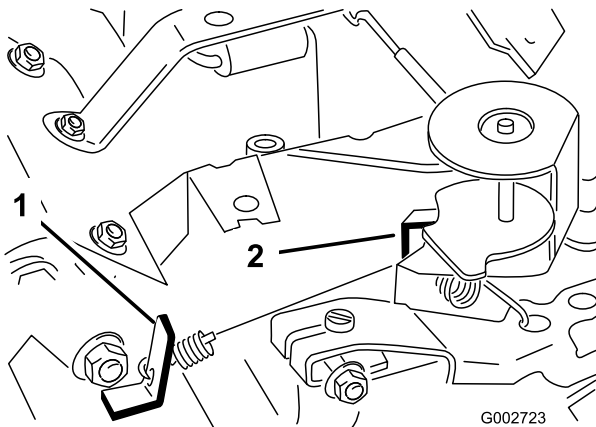

Figure 37
3. Bend the governed idle spring anchor tang (Figure 37) to attain an idle speed of 1725 ± 50 RPM. Check the speed with a tachometer.
5. Move the throttle control to the Fast position. Bend the high speed spring anchor tang (Figure 37) to attain a high speed of 3400 ± 50 RPM.